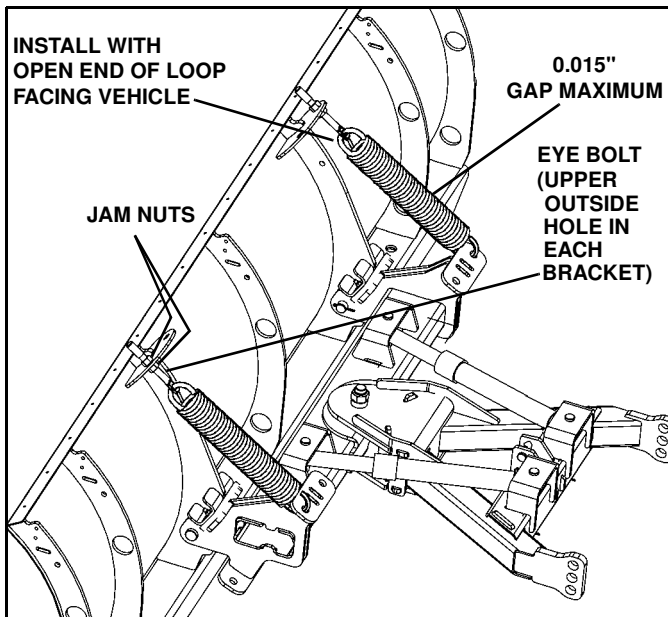

Figure 1-7
8. Rotate blade upward, and hook springs on to the swing frame spring eyelets: (See Figure 1-7).